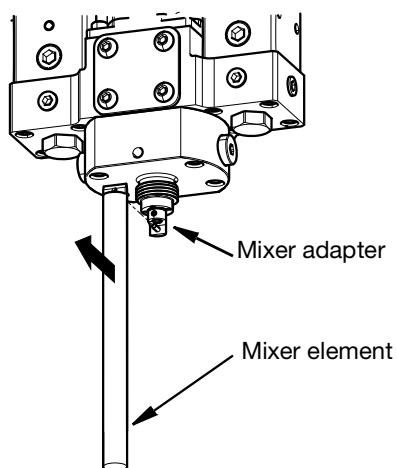

FIG. 38
- Remove the mixer element from the mixer adapter. See FIG. 38.